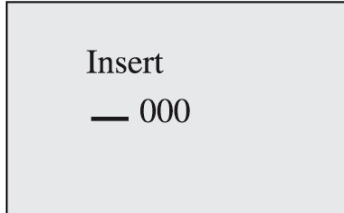

Fig. 8.13
1. Press **OK** at *<Insert FB>* in the *<Editor>* Frame. The inserting status is entered, as shown in Fig. 8.13